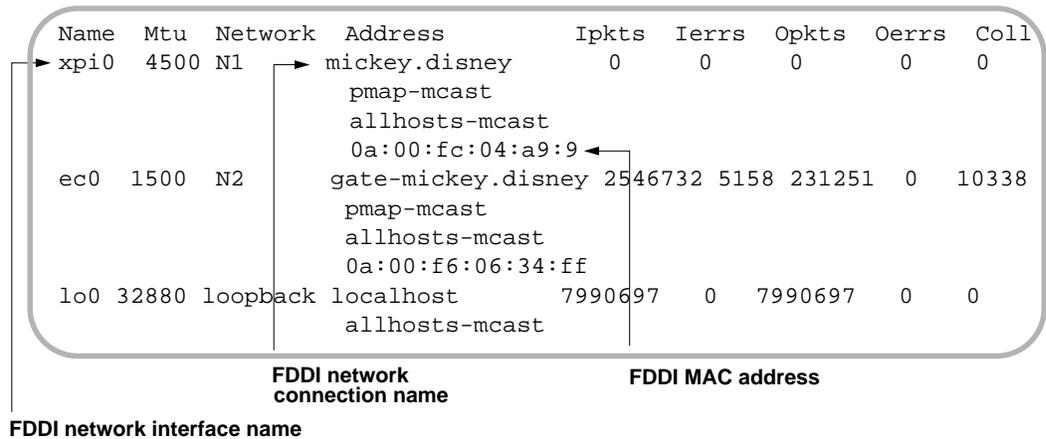

Figure 2-2 Screen Display for /usr/etc/netstat -ia Command
2. Use the */usr/etc/netstat -ia* command to determine the MAC address of your station's FDDI board and the name of the FDDI interface. Be sure to find the MAC address for the FDDI board (for example, the MAC address listed under *xpi0* or *ipg0*), not the Ethernet board (for example, *ec0*). In a default configuration, FDDI is the first interface listed. The MAC address is the number displayed in hexadecimal format, as shown in Figure 2-2.